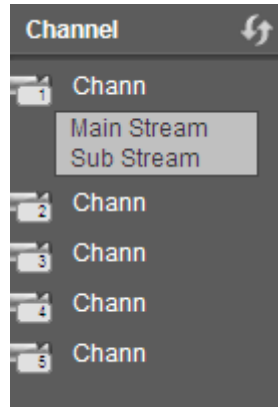

Figure 5-4
- Section 2: There are monitor channels successfully connected to the NVR. Please refer to Figure 5-4 for main stream and extra stream switch information.